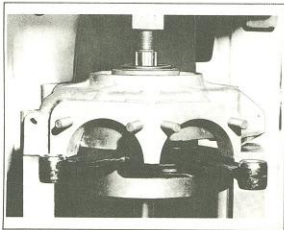

Figure 3-38. Pressing Flywheels Out
5. Position crankcase with gearcase (right side) up. Tap crankcase with rawhide or soft mallet to loosen top half. Lift right crankcase half (1) off pinion shaft main bearings. Remove spiral lock ring (2) from pinion shaft with tip of screwdriver. Lift bearing washers (3 and 5) with bearings and bearing retainers (4) off pinion shaft.
6. Mount flywheel and left case assembly on press table supporting case on parallel bars (Figure 3-38) and press on end of sprocket shaft with arbor press until flywheel assembly (8) drops out, freeing sprocket side bearing half (9), spacer (6) and spacer (10). Remove seal (7).